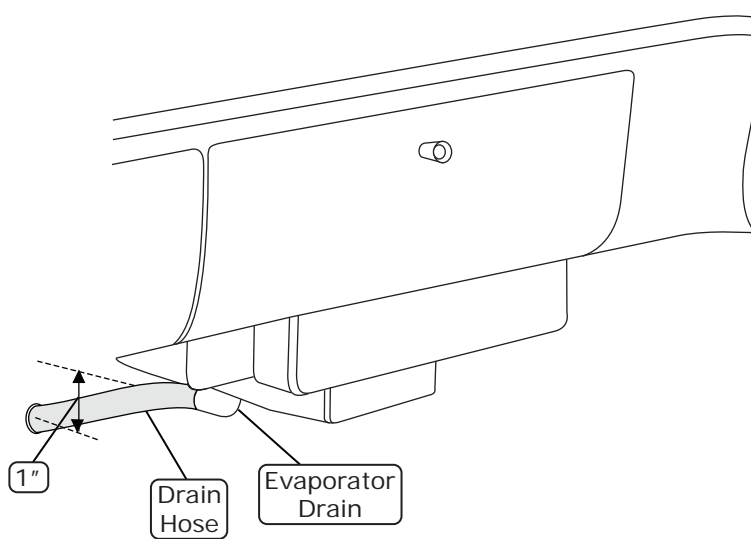

Figure 1
1. Locate the evaporator drain on the bottom of the evaporator case (See Figure 1, below).
2. In line with the drain, lightly make a mark on the firewall. Measure 1" down and drill a 5/8" hole through the firewall (See Figure 1, below).
3. Install the drain hose onto the evaporator drain on the bottom of the module, and route through the firewall (See Figure 1, below).